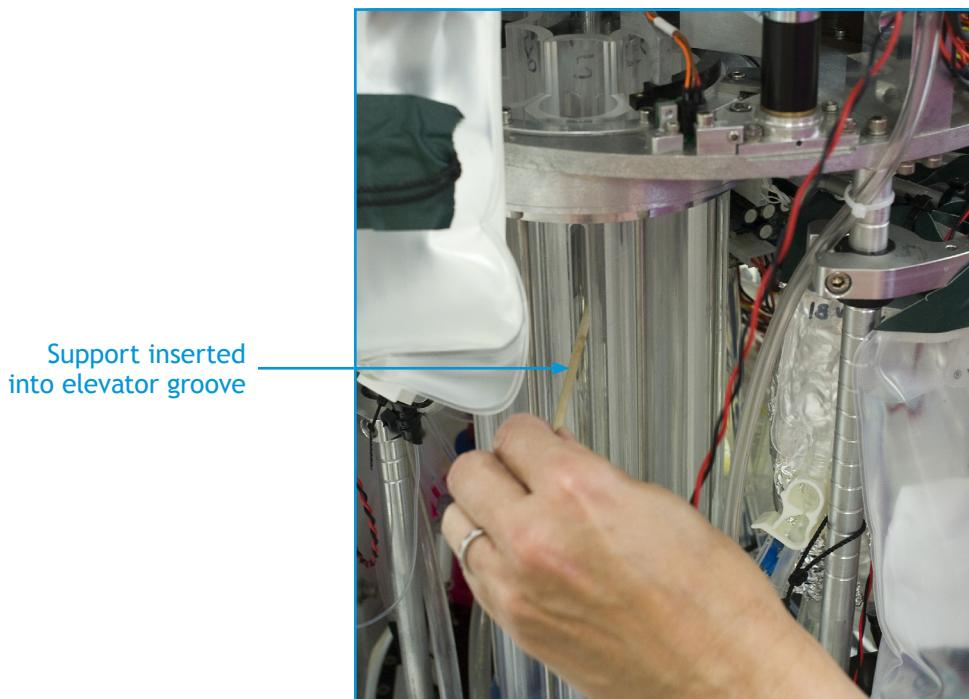

Figure 4-10: Support for loading pucks
- b. Place a wooden or plastic support into the elevator groove and all the way into the tube. Move the stick to the top of the tube. See Figure 4-10.